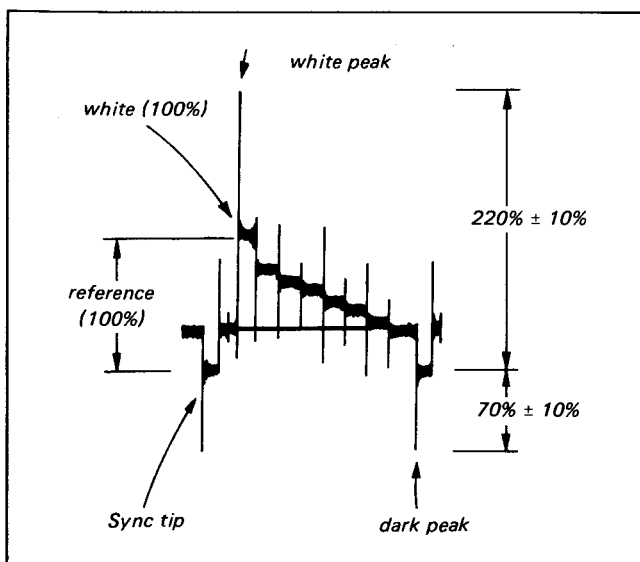

Fig. 5-23. Dark clip and white clip adjustment
- i) Adjust RV10 so that the signal tip (dark peak) is $70\% \pm 10\%$. (See Fig. 5-23.)